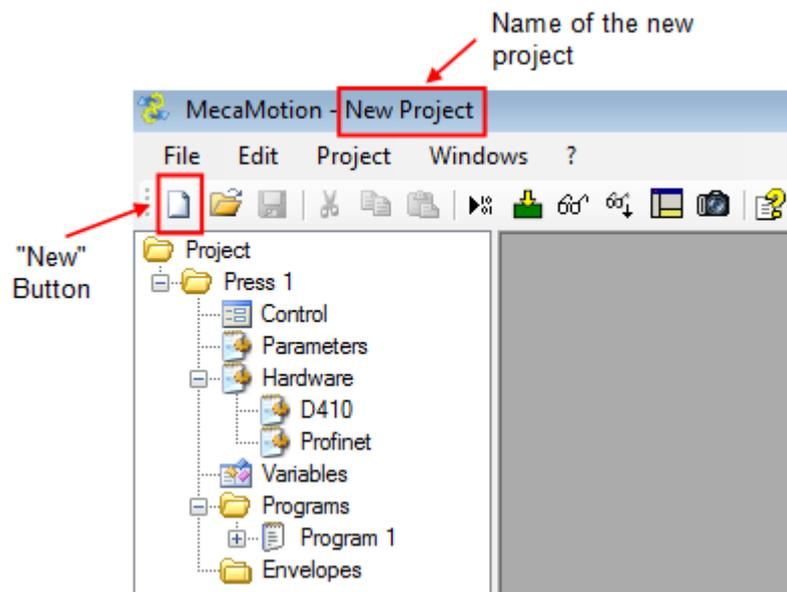

Figure 1: Creating a new project
1. In the menu bar, select "File > New project" or click on the "New" button located in the general toolbar (see figure 1).
2. By making one or other of these selections, a new tree structure is created under the folder "Project". For the moment the name of this project is "New project" and appears in the software header (see figure 1).
4. The project name is displayed in the header of the press software (Figure 1).